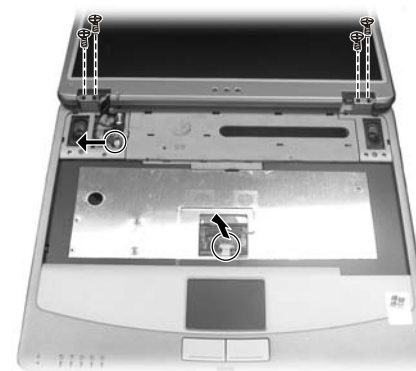

Figure 2-18 Loosen the screws and disconnect the cable
6. Remove the four screws of the hinges. Then disconnect the speaker's cord and touch pad cable. (Figure 2-18)